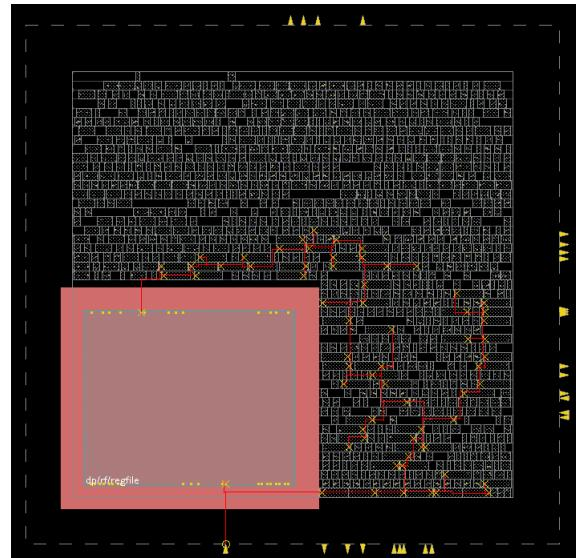

Figure 23: Clock tree path.
3. On the visibility toggles (on the right part of the screen, as explained in Fig. 1), deselect *Net* and *Cell* and select the *Floorplan* view. That way, you can see the clock tree, as depicted in Fig. 23.